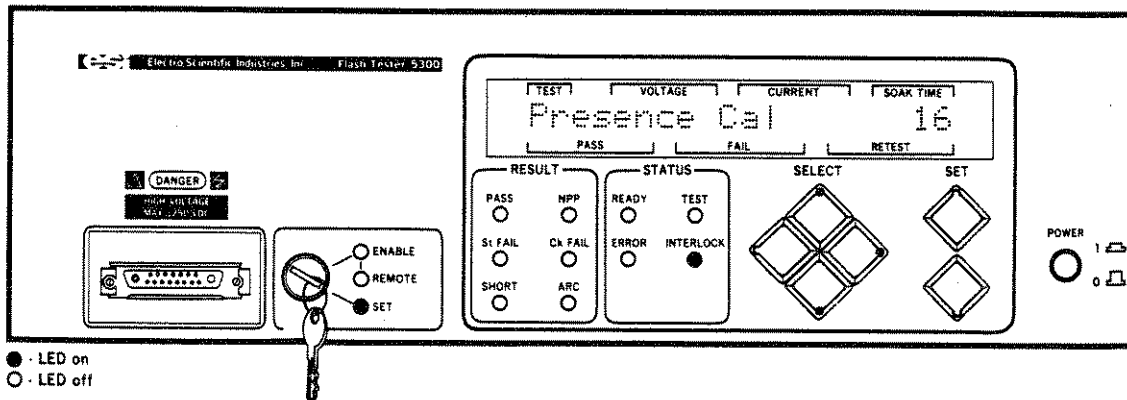

Figure 3-31. Presence Calibration Display
STEP 19. Press the DOWN pushbutton twice to indicate the Presence Calibration value. Notice that the LED on the RIGHT pushbutton is illuminated. Pressing the RIGHT pushbutton will enable this calibration to be performed. Figure 3-31 is an example of this display. Before the Presence Calibration may be performed, the full installation must be performed.